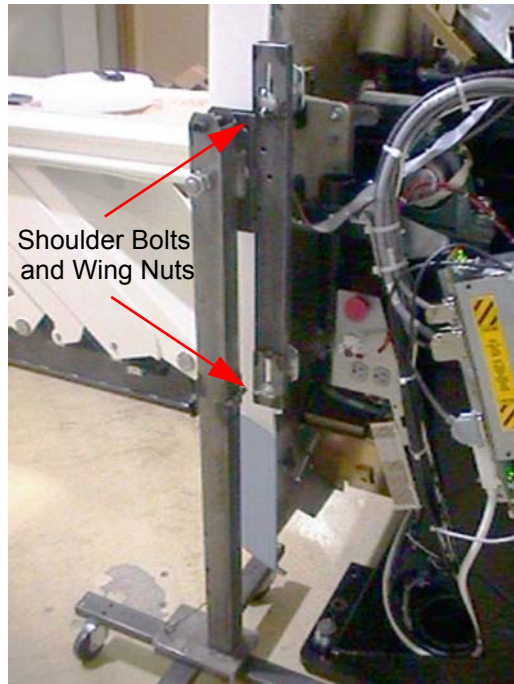

Figure A-18 Front Side Dolly
- a.) Tighten the two (2) shoulder bolts to the gantry securely. This makes cover installation easier (see Figure A-18).